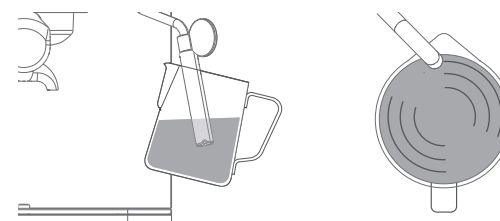

Fig 7
7. Keep the tip just under the surface until the milk is spinning clockwise, producing a vortex (whirlpool effect). (See Fig 7)